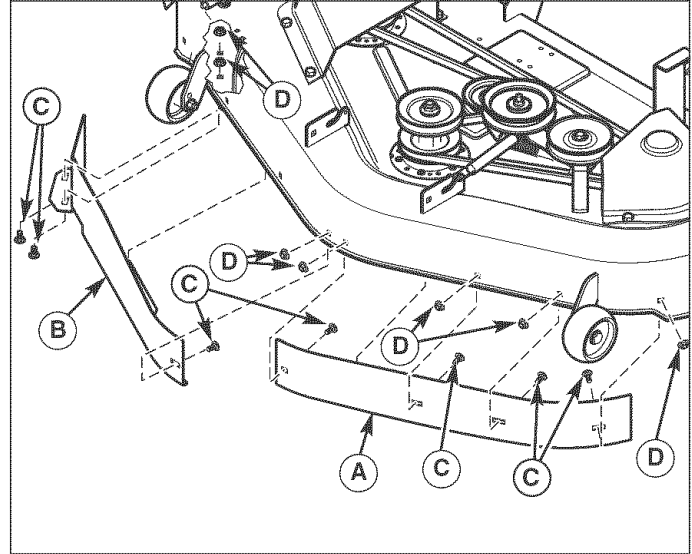

Figure 8. Blowout Baffle Installation
See Figure 8 for hole locations.
2. Install LH baffle (A, Figure 8), and secure with 5/16-18 x 5/8 carriage bolts (C) and 5/16-18 Whiz Lock nuts (D).
3. Install RH baffle (B), and secure with 5/16-18 x 5/8 carriage bolts (C) and 5/16-18 Whiz Lock nuts (E).